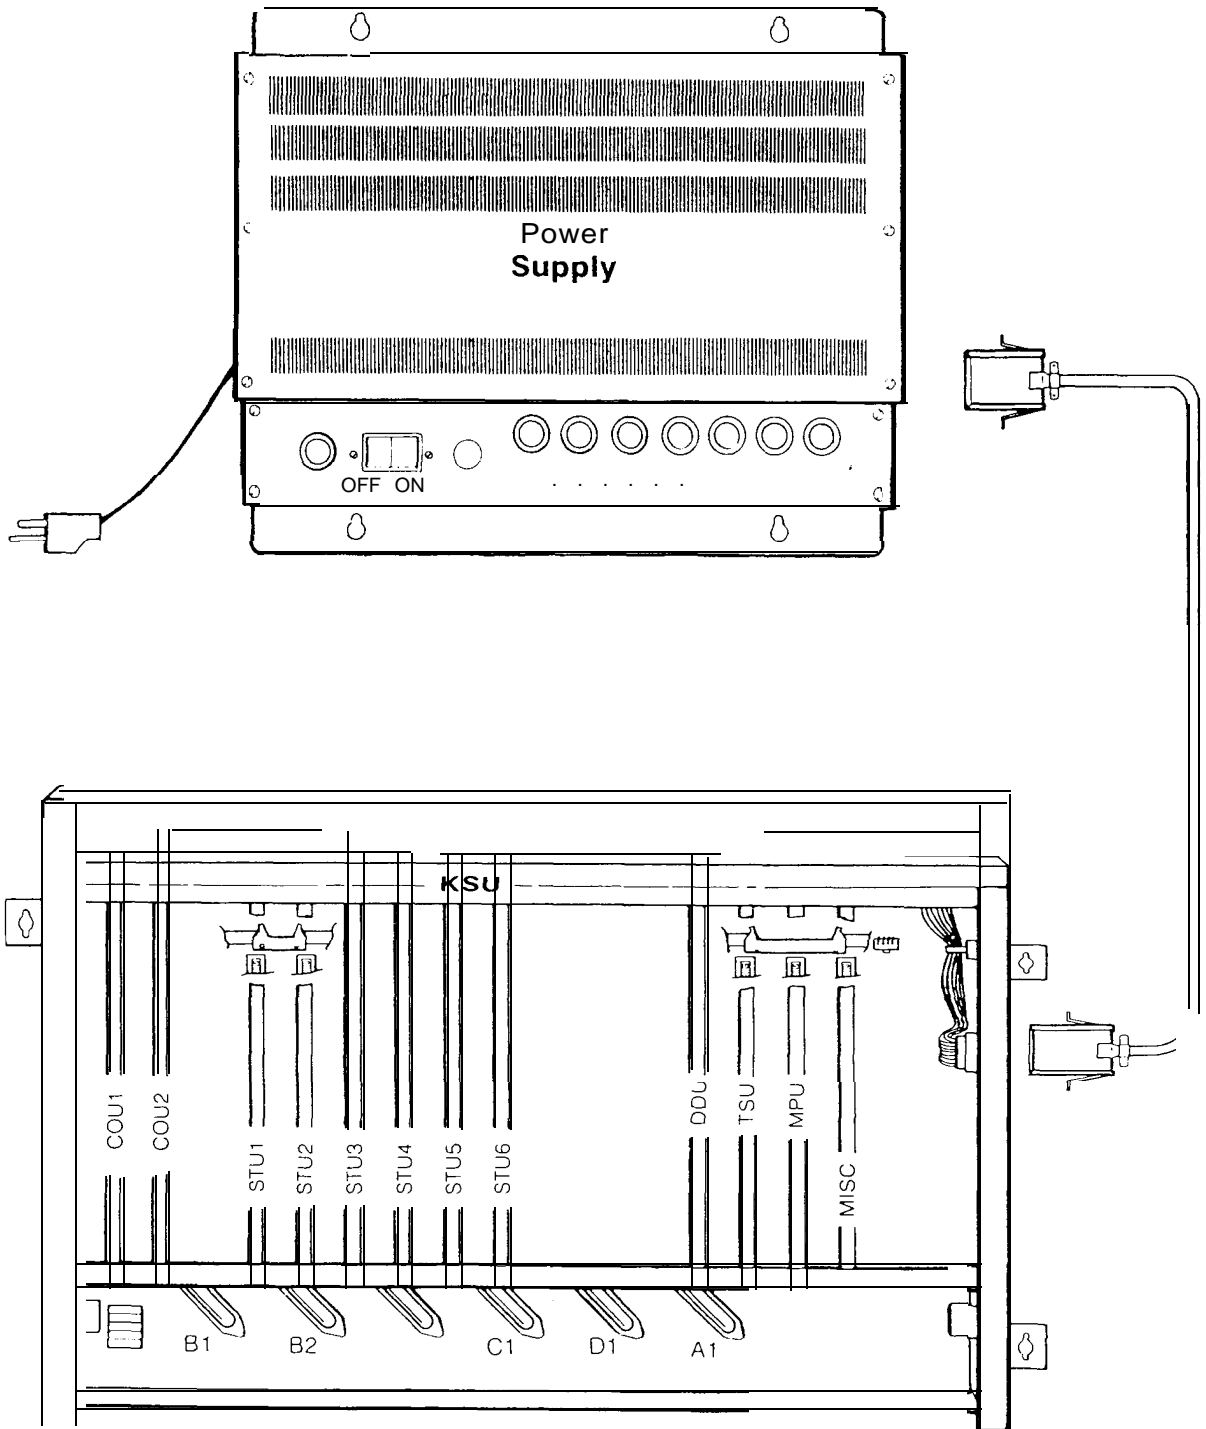

FIGURE 1-1 THE BUSINESSCOM PLUS KSU AND POWER SUPPLY
- o The BUSINESSCOM **8/12** KSU (P/N 15000 or P/N 15001) for the BUSINESSCOM PLUS **8/12** System, shown in Figure 1-1, includes one of each of the following **PCBs**: